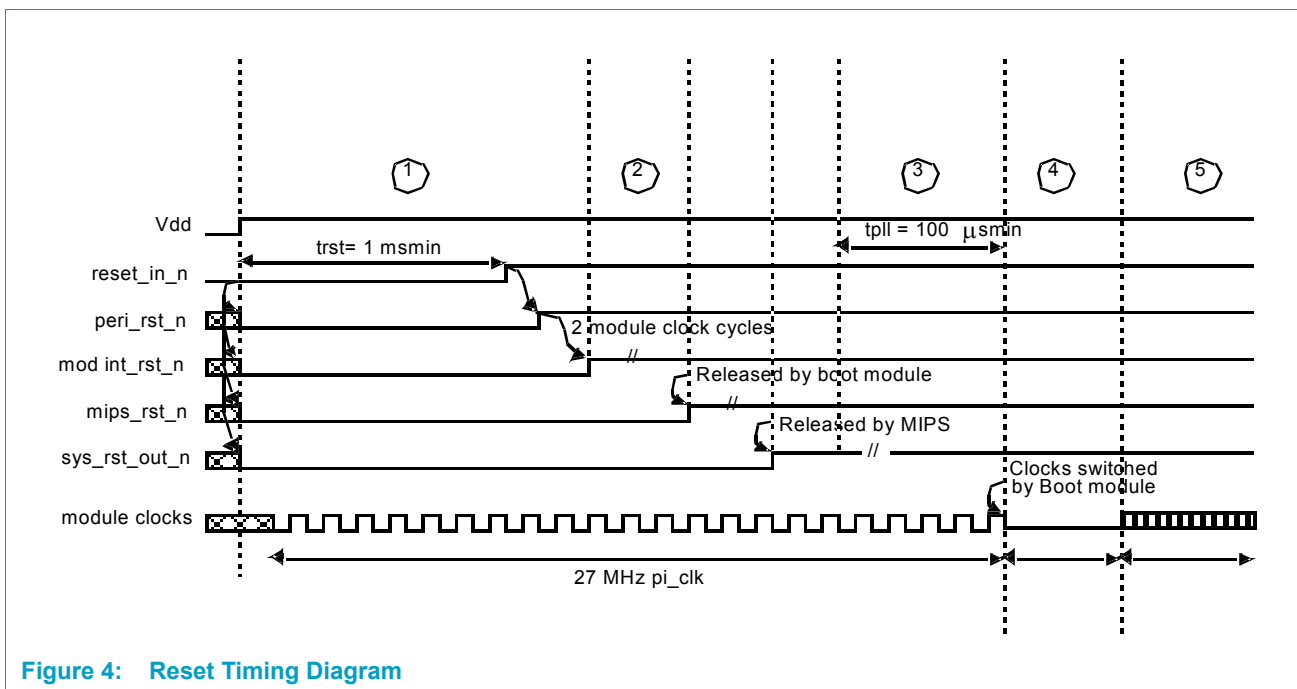

Figure 4: Reset Timing Diagram
During normal boot of the system, the external reset input to the PNX8526, reset\_in\_n, will be asserted following power up of the system. This causes the assertion of all the reset signals as shown in Figure 4. When the Clock module receives the peri\_rst\_n, it ensures that all modules receive the 27 MHz crystal
After the Boot module has programmed all PLLs, it will set a "switch\_to\_modclks" register in the Clock module and the Clock module will safely switch from the 27 MHz clock to the separate module functional clocks. This is shown in Figure 4
**Remark:** The entire boot-up sequence shown in Figure 4 is repeated in the event of a software reset or a MIPS CPU watchdog timeout.
In the normal sequence of events, after power up of the PNX8526, the Boot module will set rel\_mips\_rst\_n allowing the MIPS CPU to get out of reset and start fetching instructions (see Figure 4). The mips\_rst\_n may be asserted again if:
In the normal sequence of events, the MIPS CPU will set rel\_sys\_rst\_out once the MIPS CPU is out of reset, as shown in Figure 4. The sys\_rst\_out\_n will be asserted again if: